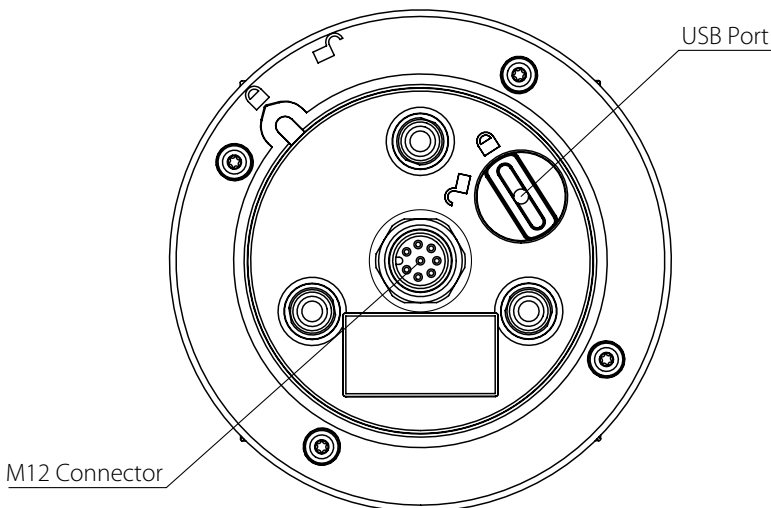

Figure 3 - Locating the USB access hatch and M12 connector
1. Turn the USB Port Cover on WindUltra counter clockwise to open it (Figure 3)